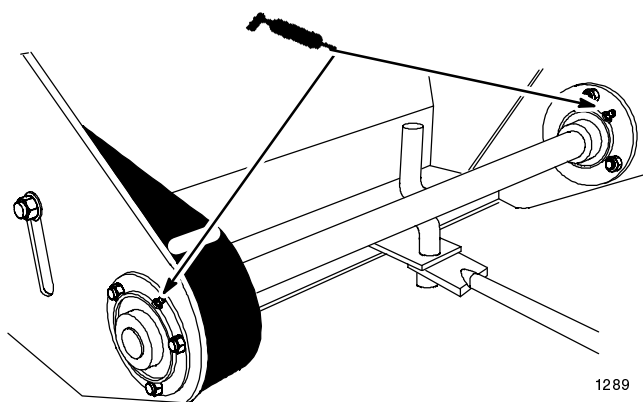

Figure 25
1. Lubricate the drive shaft bearings (Fig. 25).